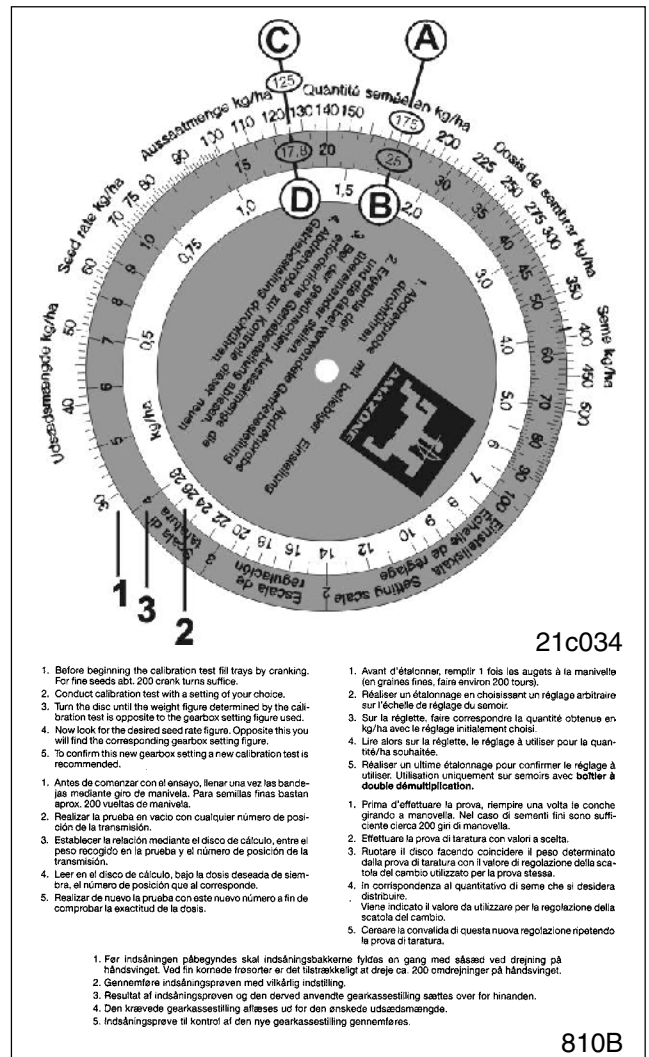

Fig. 12.10
The disc rule consists of three scales: One outer white scale (Fig. 12.10/1) for all seed rates above 30 kg/ha and an inner white scale (Fig. 12.10/2) for all seed rates below 30 kg/ha. On the central, coloured scale (Fig. 12.10/3) gearbox settings from 1 to 100 are printed.
- Align the seed rate 175 kg/ha (Fig. 12.10/A) and the "gearbox setting position 25" (Fig. 12.10/B) on the disc rule.
- Now read off the disc rule the gearbox setting figure for the desired seed rate of 125 kg/ha (Fig. 12.10/C). In our example that is the "gearbox setting position 17.8" (Fig. 12.10/D).